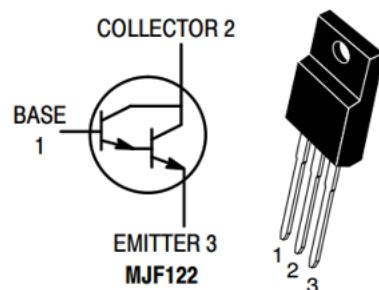

Figure 28a: Pinout of MJF122 BJT used in motor driver
- I plugged it into the breadboard following the pinout in Figure 28a